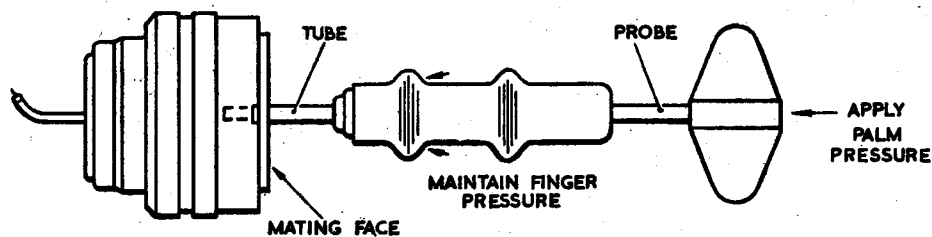

Fig. 13. Removal detail
(2) Slide the removal tool tube towards the tool handle.
(3) Centre the removal tool probe on the selected contact but do not apply pressure on the probe.
(4) Slide the removal tool tube, by moderate finger pressure into the mating face of connector insert fig. 13.
(5) Maintain finger pressure on the removal tool tube and steadily apply pressure by palm of hand to the removal tool probe, until contact unseats from the retaining spring clip.
(6) If the contact fails to release, pull the removal tube free, rotate the tool and repeat the procedure.
(7) Pull the contact free of rear insert cavity and remove tool from mating face cavity.